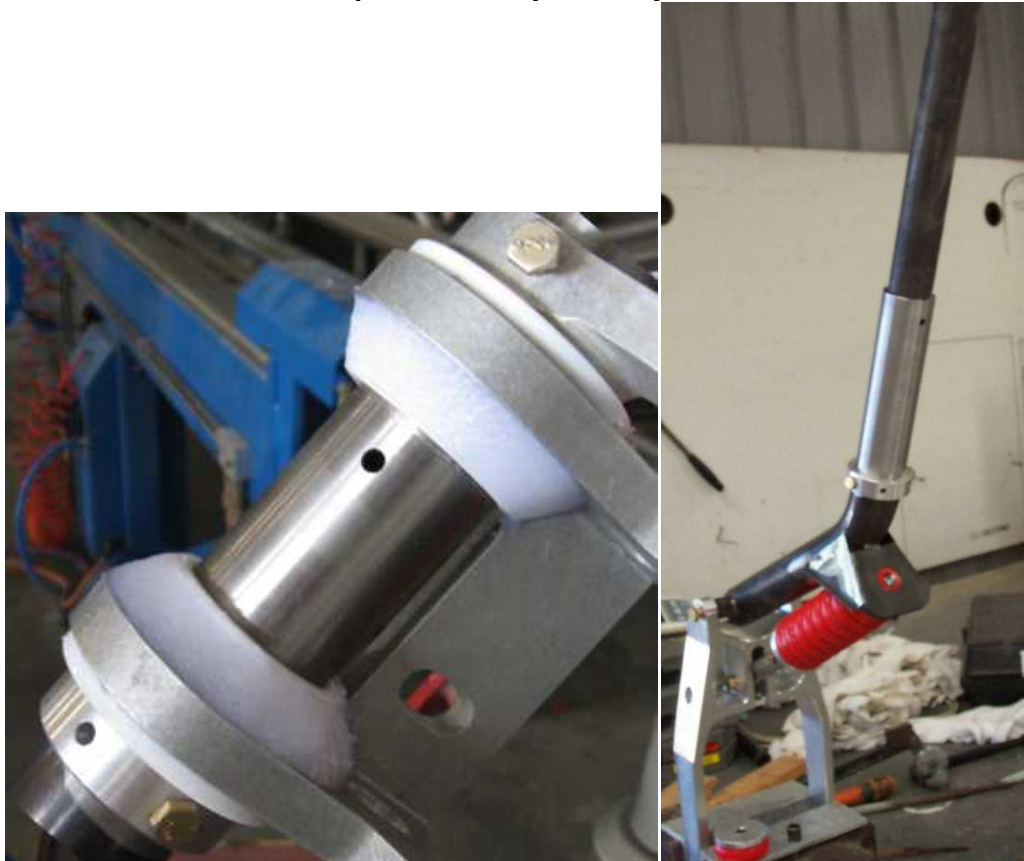

Figure 49 – Nose Leg Housing & Assembly
13. Ensure there is a thick flock bed around the part as shown in Figure 49 (left).
3. Clamp the leg in a vice as shown in Figure 49 (right). Ensure good soft-jaws are used to avoid damaging the nose leg yoke.
5. Fit an extension to the nose leg as shown in Figure 49 (right) and use it as a lever to carefully compress the rubber until the tension comes off the restraint washer. Remove the restraint bolt and washer and carefully allow the rubber to expand.